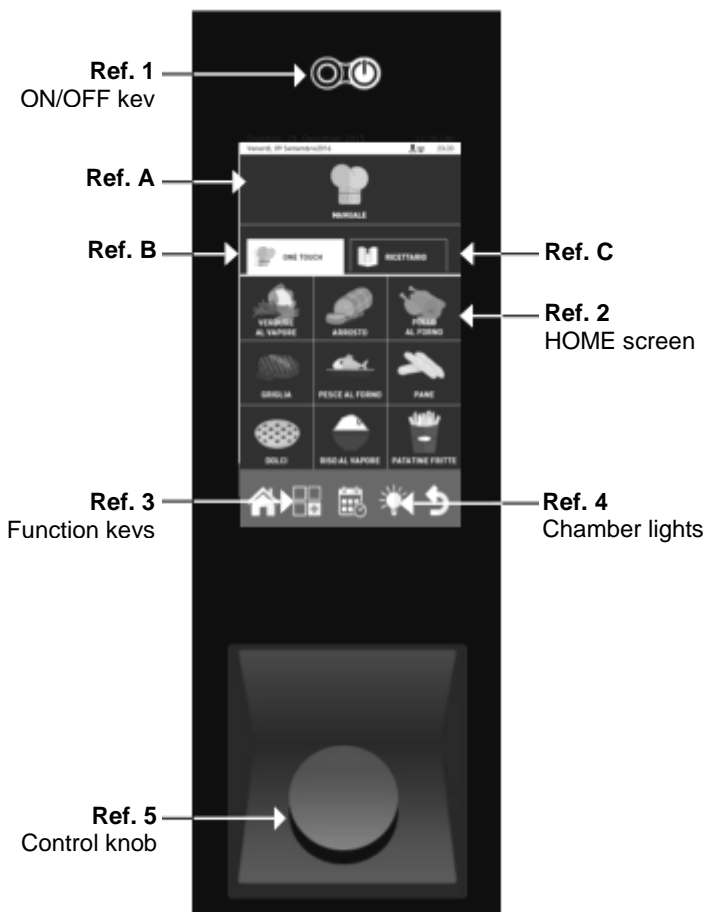

Fig. 8
- Turn the device on with use of on/off switch. (Ref. 1, Fig. 8).
- The device lighting is turned on by pressing the appropriate key (Ref. 4 Fig. 8), and turns off automatically after 45 seconds unless it is turned off earlier by pressing the same key again.
- The control panel is equipped with the knob (Ref. 5, Fig. 8). Rotate the knob to set the required parameters and press it to confirm the set values.
Turn the oven on by pressing the ON/OFF key (Ref. 1, Fig. 8), the initial "HOME" screen will appear on the display (Ref. 2, Fig. 8).
To modify a cooking parameter, e.g. the temperature, click on the relative field and turn the knob (Ref. 5, Fig. 8).
To confirm the modification, click on the parameter again or press the knob (Ref. 5, Fig. 8).